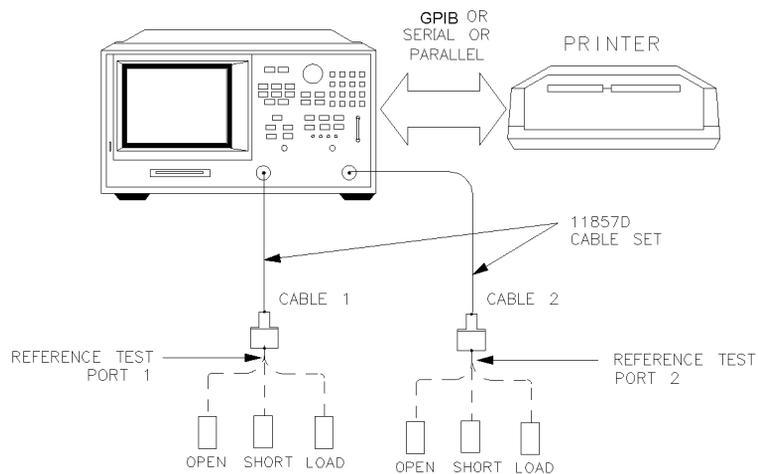

Figure 3-1. System Verification Test Setup
- 1 Connect the equipment as shown in Figure 3-1. Let the Agilent 8702D warm up for one hour.
- 5 Connect the “open” end of the open/short combination (supplied in the calibration kit) to reference test port 1, as shown in Figure 3-1.
- 11 When the Agilent 8702D finishes measuring the standard, connect the “open” end of the open/short combination to reference test port 2, as shown in Figure 3-1.